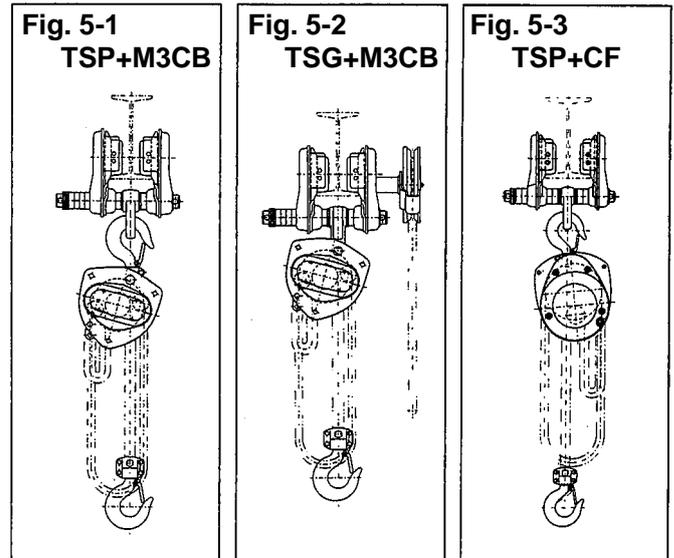

Fig. 5-4 Mounting suspender C
- (3) Direct coupling method of M3 series chain hoist.
- (a) For 0.5 to 2.5t (Refer to Fig.5-4)